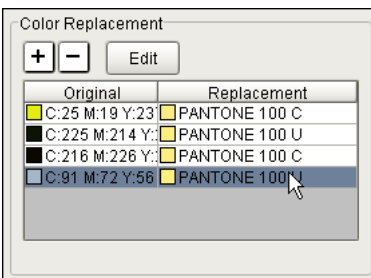

Figure 5—Color Replacement
- **Color Replacement**—this option selects and changes one color to another color (see Figure 5).